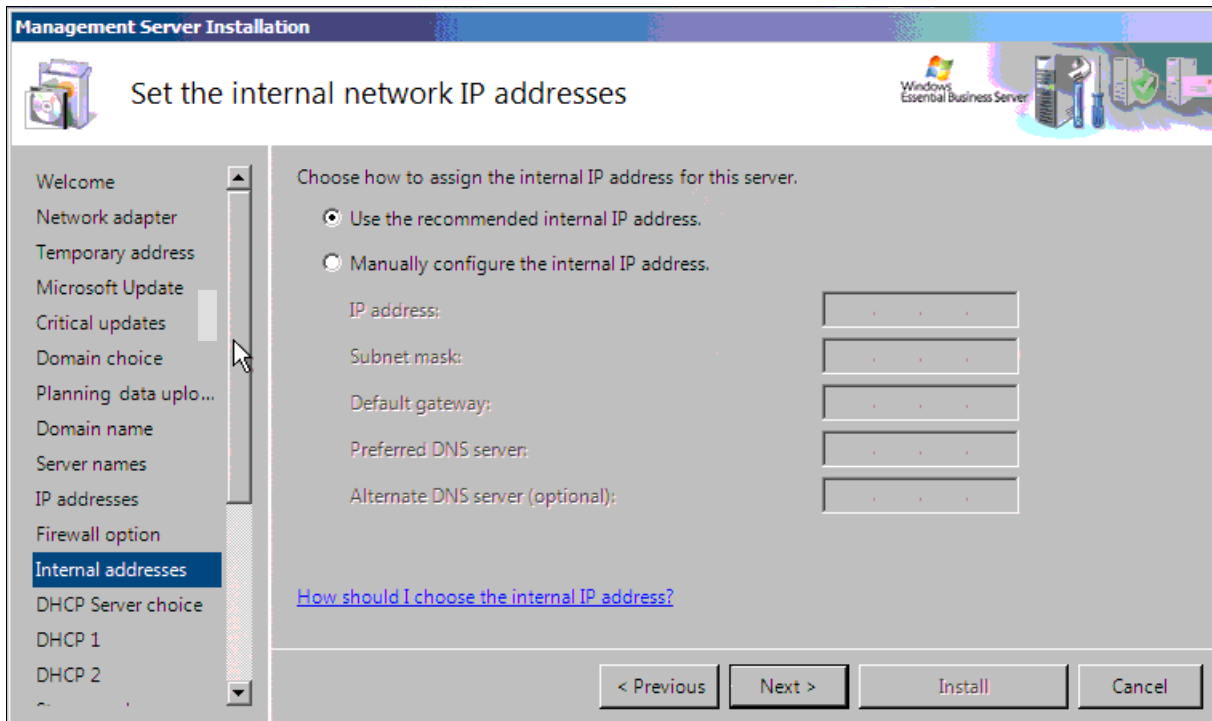

Figure 4-14 Set the internal network IP addresses
20. On the “Set the internal network IP addresses” panel (Figure 4-14), review the default IP settings for the Management Server. Click **Next**.